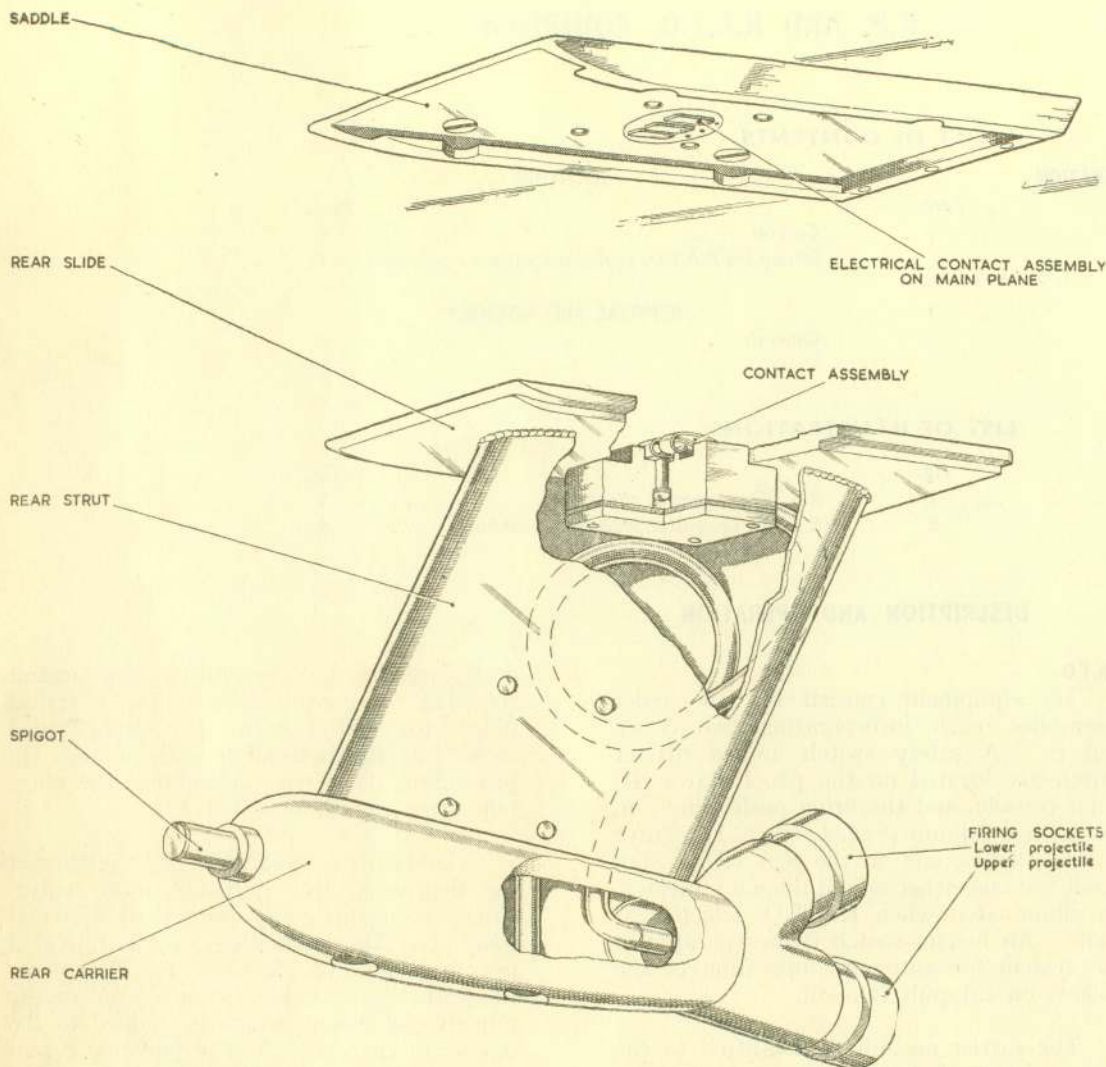

Fig. 1. Rear attachment assembly
2. Four rocket projectiles, having 25 lb. or 60 lb. heads, can be carried on tier type carriages under each main plane, inboard of the wing fold (*fig. 1 and 2*). The electrical selecting and firing controls consist of an armament master switch, a "pairs/salvo" selector switch and a firing push button switch, the two former being mounted on the centre instrument panel and the latter being located beneath the safety cover switch on the control column handle (*Sect. 1, Chap. 1*). The firing order of the rockets is controlled by an automatic selector switch. Reference should be made to A.P.(N) 1023(7) for details of the installation.